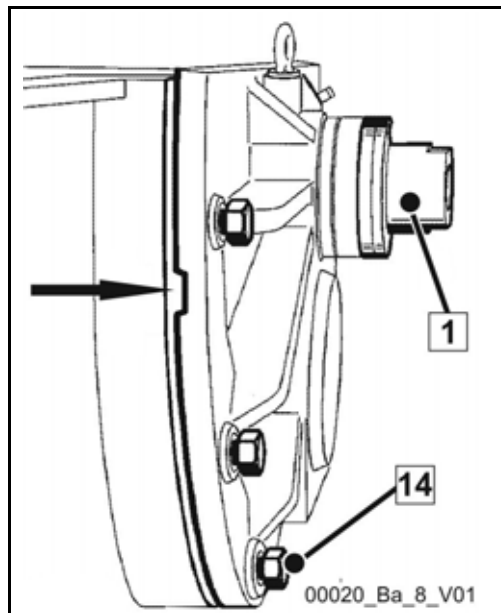

Fig. 318
- Loosen the adjusting nut (1) (**Fig. 318**) by two to three turns.
- Loosen the cover screws (14) evenly by approx. two to three turns to release the pressure spring in the cutting ring.
- Press off the cover of the housing using two assembly levers until it hits the loosened screws; there are press-off points (arrow) (**Fig. 318**) located on the top cover for this purpose.